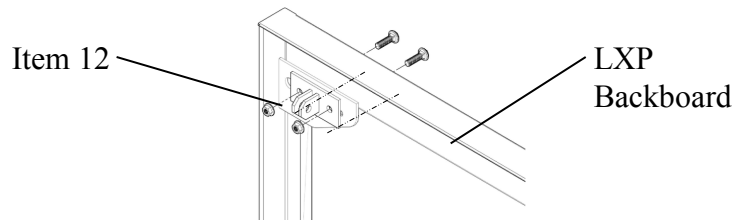

Figure 2
3. Attach the backboard brace brackets (item 12) to the top corners of the backboard as shown in figure 2. Use the 3/8-16 x 1" carriage bolts with whizlock nuts for this assembly. Leave these bolts loose for adjustment later.